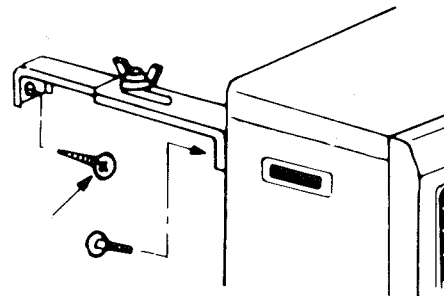

Fig. 16
12. After installation is completed, secure heater to the wall with the wall brackets provided with the heater. Make sure the heater is parallel to the wall (See Fig. 16).